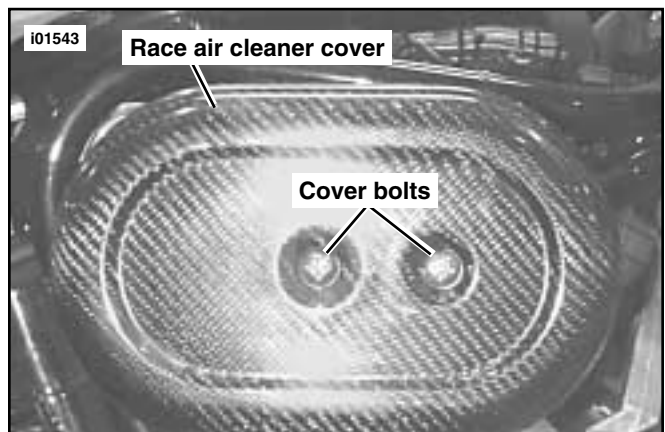

Figure 13. M2 or S3 Race Air Cleaner Cover
17. See Figure 13. Install air filter element and air cleaner cover using bolts. Tighten until snug.